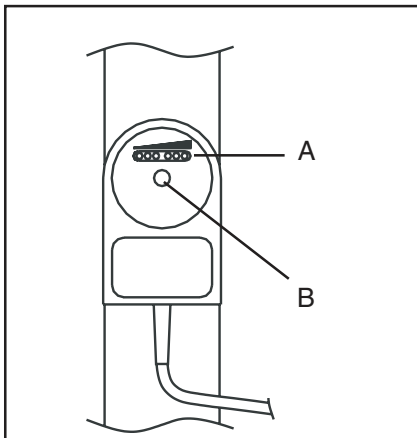

Fig. 15
N.B. Check that the flow switch is correctly fitted, see fig. 15.
Maintenance-free. See section 3 and fig. 15.
4. Screw nylon screw B off (fig. 15).
5. Check that the flow switch is turned the correct way (see fig. 15).